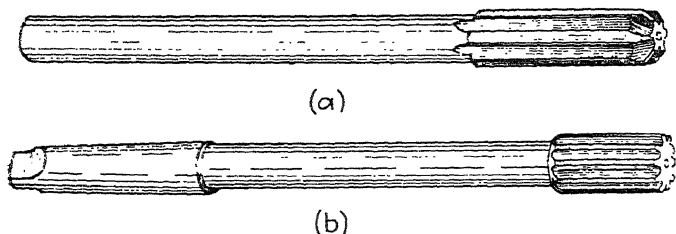

FIG. 133.—Machine reamers. (a) Straight-shank rose reamer; (b) taper-shank fluted reamer.
**143. Chucking or Machine Reamers** (Fig. 133).—Machine reamers are largely used in drill presses, lathes, and similar machines. There are two types of machine reamers, rose reamers and fluted reamers. In the *rose reamer*, the teeth are beveled on the end and "backed off"; they cut only on the end. The lands1 are nearly as wide as the grooves and are not relieved (backed off). The flutes or grooves are provided for conveying oil to the cut and chips away from the cut. The rose reamer tapers slightly smaller toward the shank (about